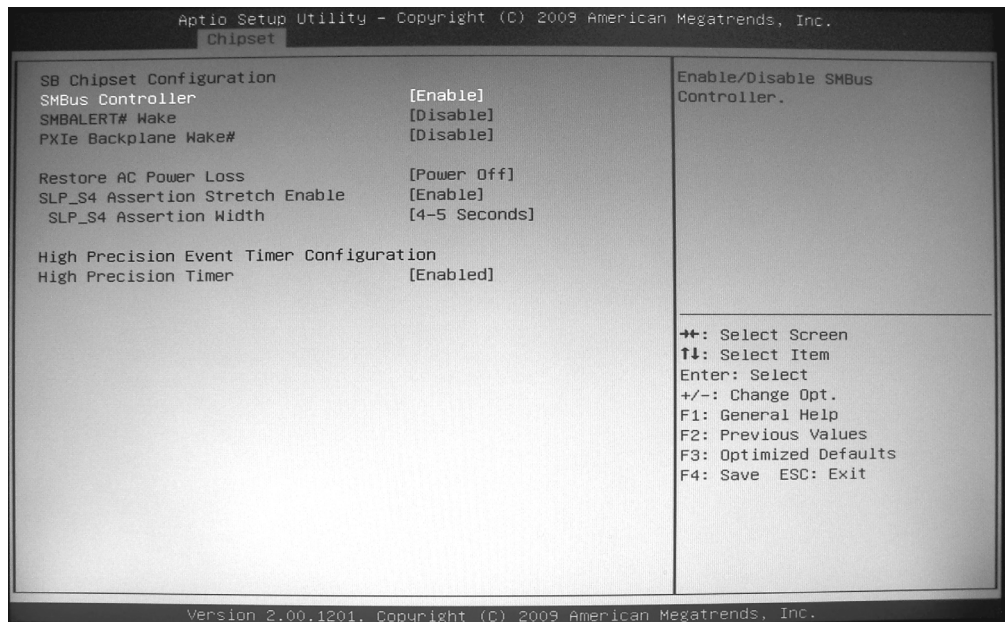

Figure 9 BIOS Chipset South Bridge Menu
- The South Bridge Configuration provides SMBus, GbE Controller, Wake on LAN, Audio, USB Configuration, and PCIe Ports Configuration information. See Figure 9 on the next page.